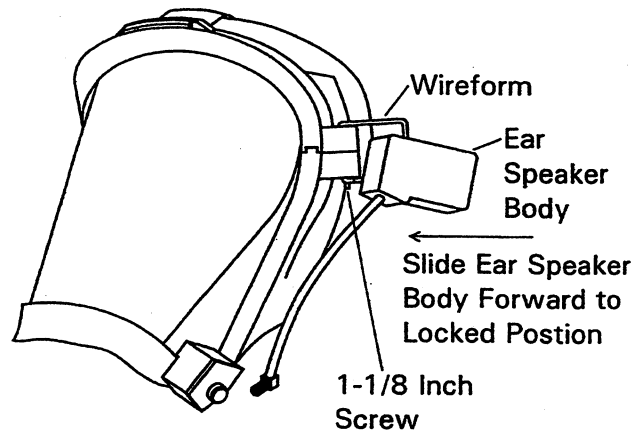

Figure 4. Position Ear Speaker Bracket
16. Install the wireform attached to the ear speaker as shown in Figure 4.